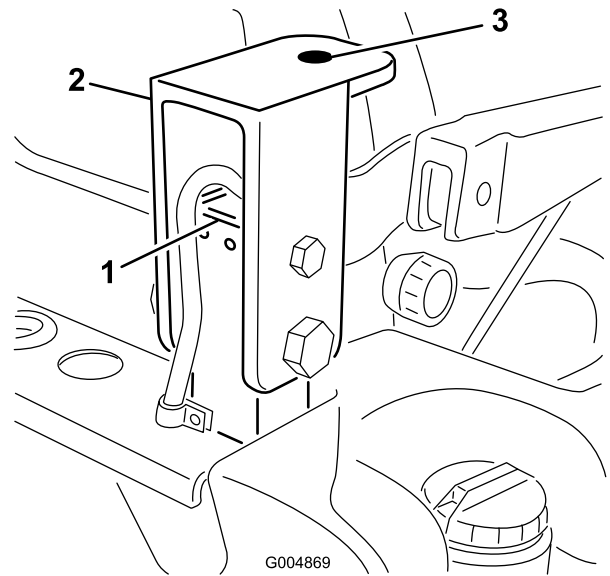

Figure 93
38. Remove the bolts and nuts securing the cab mount supports to the ROPS posts (Figure 93).